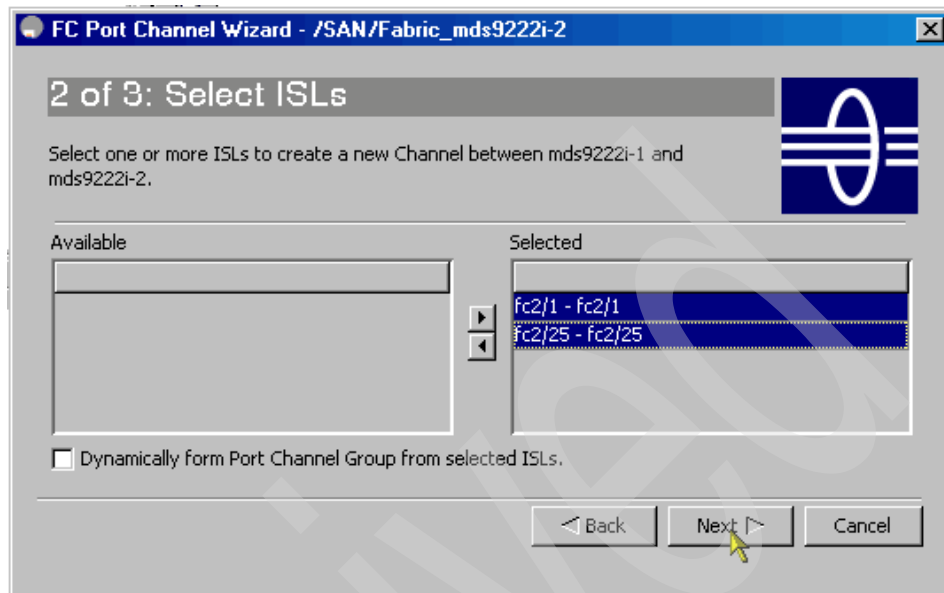

Figure 6-88 Select ports to form a PortChannel
3. Choose the ports to form a PortChannel, as shown in Figure 6-88.